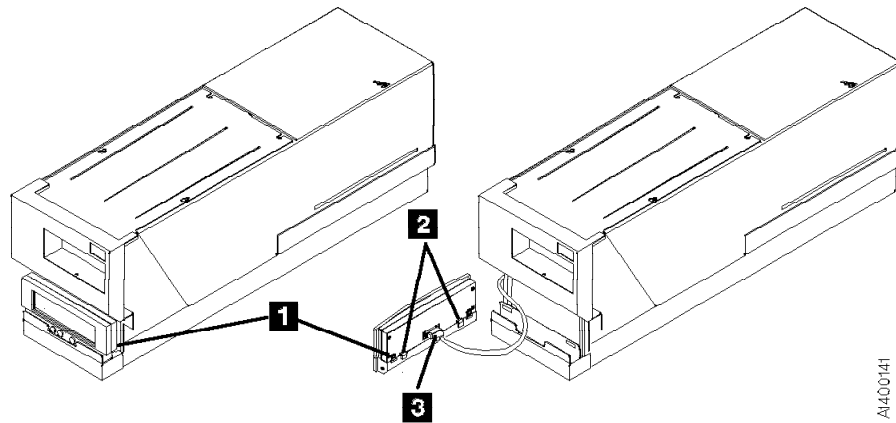

Figure 284. Operator/CE Panel, Model B1A/E1A
2. See Figure 284. Press the two buttons **2** on the rear of the panel **1**.